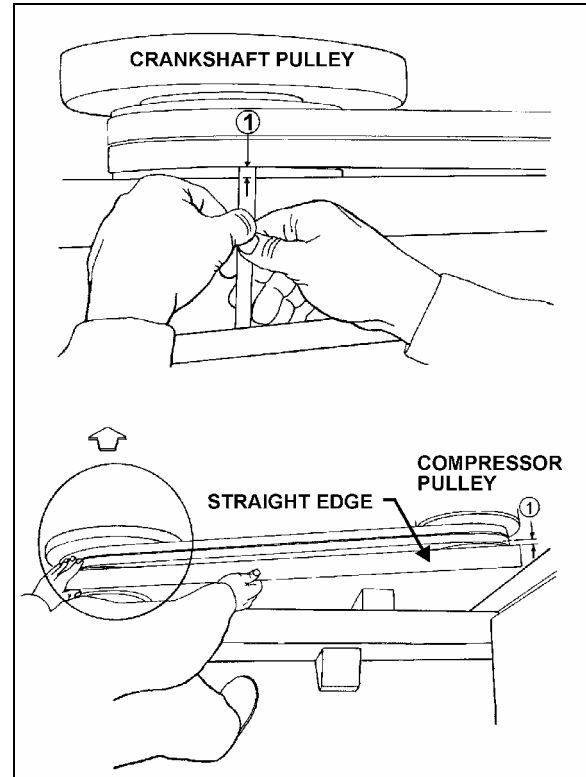
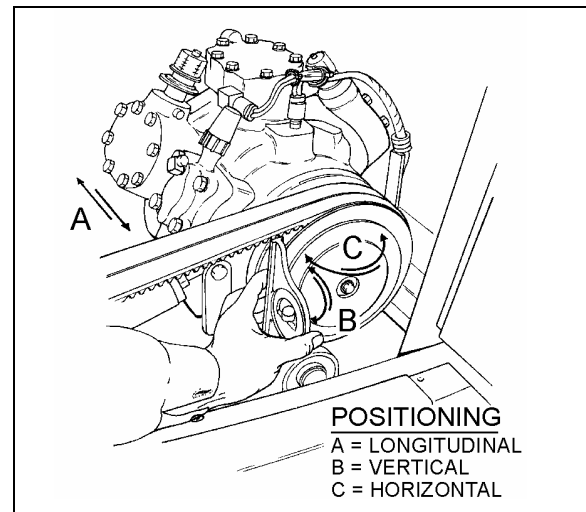

FIGURE 18: COMPRESSOR ALIGNMENT
FIGURE 19: COMPRESSOR ALIGNMENT
1. Rest an extremity of a straight edge of approximately 46 inches (117 cm) against the upper part of the outer face of crankshaft pulley, positioning the other end close to the compressor clutch pulley (Figure 18 & Figure 19).
2. Check the distance between each extremity of straight edge (1, Figure 18) and the first drive belt. If they are different, loosen the compressor support bolts and with a hammer, knock support to slide it in order to obtain the same distance; then tighten bolts.
2. Check the distance between each extremity of straight edge (1, Figure 18) and drive belt. If they are different, loosen the pillow block compressor bolts and with a hammer, knock compressor pillow block to slide it, in order to obtain the same distance; then tighten bolts.
Rest a short "angle and level indicator" on the outer side face of the crankshaft pulley, adjust the level indicator inclination at 0° and check if the compressor pulley is at same angle (Figure 18 & Figure 19). If it is not the same, shim under the appropriate pillow block in order to obtain the correct angle.